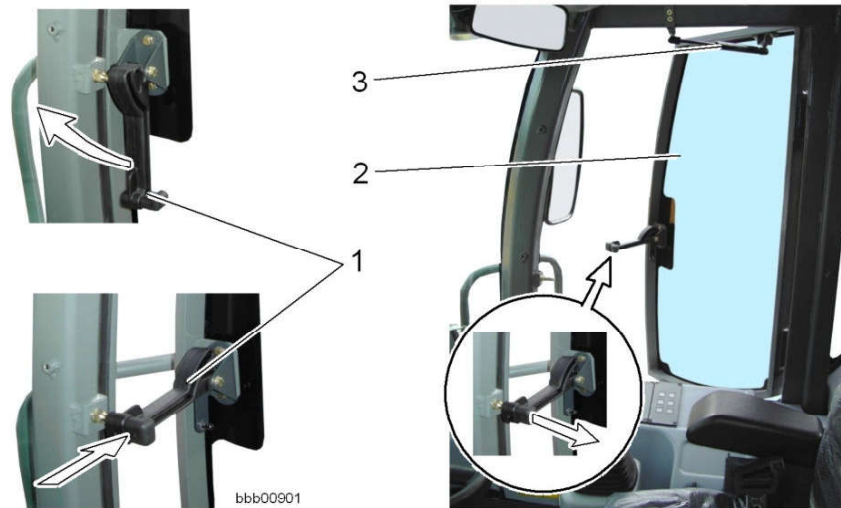

Fig. 68: Opening and closing the hinged window
- Guide the lever 1 (see: fig. 68, page 71) over the retainer and push the hinged window down until it is closed.